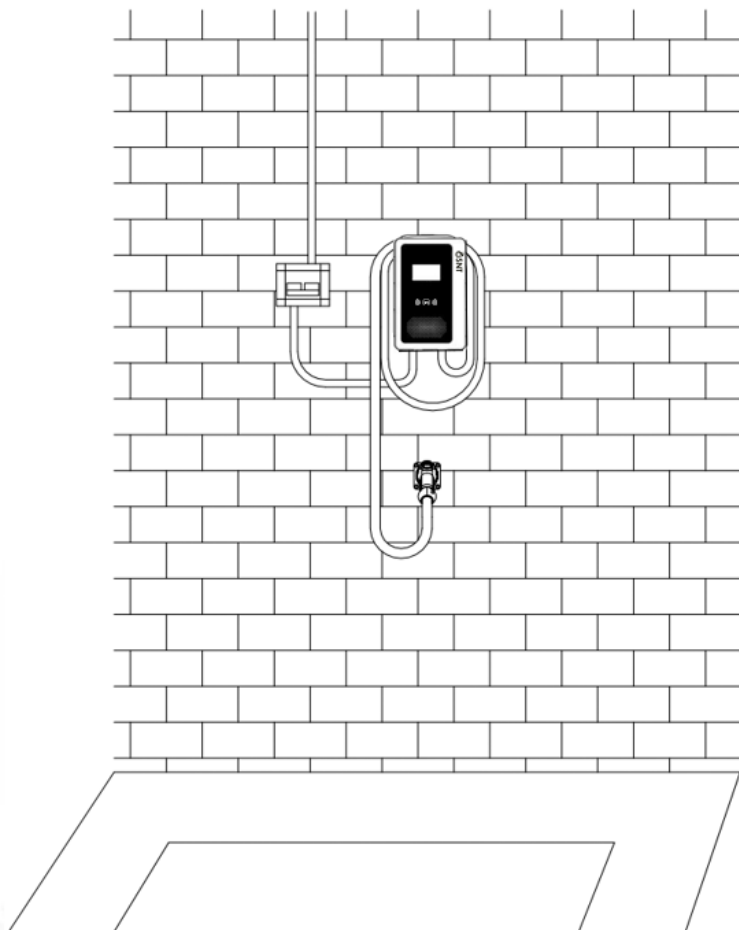

Fig.7
- e. After installation, the effect is as follow: Fig.7